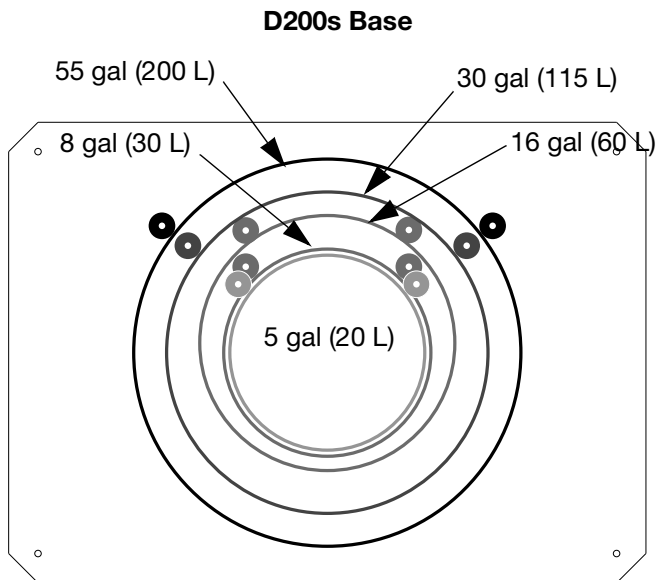

FIG. 15: Ram Base
1. Locate the correct set of mounting holes on the Ram Assembly base. See FIG. 15.